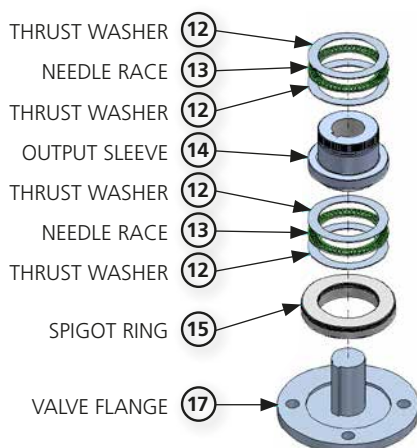
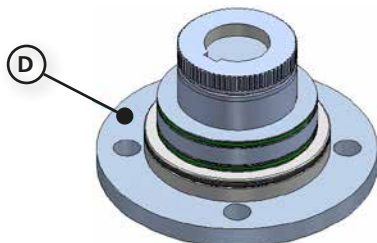

Figure 12 – Valve stem assembly
Figure 13 – Valve stem (assembled)
Check that the diameter of the male spigot supplied with the gearbox (Part 15 in Figure 12) matches the female spigot recess in the valve bonnet flange before assembling the gearbox onto the valve.
In addition to the points in Section 7.2.1, it is recommended that the machined output sleeve assembly is assembled onto the valve stem first and then the gearbox lowered onto the output sleeve assembly. See Figure 12 and Figure 13 for assembly details.
Fit the machined output sleeve (14), thrust bearings (12 & 13) and baseplate spigot ring (15) on the valve stem as shown in the Figure 12. Bearings should be lubricated with the appropriate grease (see Table 6). Grease the bearings, output sleeve and valve stem. Note that the spigot ring has an internal and external seal that should also be greased.